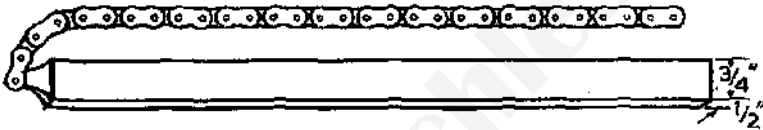

FIG. 29.—CHAIN BAR.
- (1) The clutch cable.
- (2) The four nuts fixing kick-starter-case cover and withdraw, leaving the kick-starter crank and-foot-change pedal in position. Fit a rubber band between the kick-starter crank and foot-change pedal *to* prevent the kick-starter spring unwinding.
- (3) The clutch lever in the kick-starter-case cover, also the short push rod. Watch for the ¼ in. steel ball used between the short and long push rods.
- (4) The kick-starter pinion nut; pull off the pinion and spring.
- (5) The four nuts fixing the kick-starter case to the gearbox shell.
- (6) The kick-starter case. Watch for the twelve rollers on the camshaft.
(7) The slotted bolt at bottom of the gearbox shell, with its spring, which operates the pawl.
(8) The whole of the gears and layshaft, except the main driving gear, with camshafts.
(9) The rear chain. The mainshaft can now be withdrawn from the clutch end of the gearbox. Using a chain bar, which is simple to make (Fig. 29), with a short length of  $\frac{5}{8}$  in. x  $\frac{3}{8}$  in. chain attached, drape the chain round the sprocket, with the bar propped against the frame. Should it be inconvenient to make a tool of this kind, leave the chain attached and apply pressure on the brake pedal to release the sprocket-fixing nut after turning
The nut securing the rear-chain sprocket is firmly tightened, therefore some difficulty may exist in holding the sprocket during this process. The chain bar (Fig. 29) is the tool for this job, fitted on to the sprocket, with the bar propped against the frame after disconnecting the rear chain.